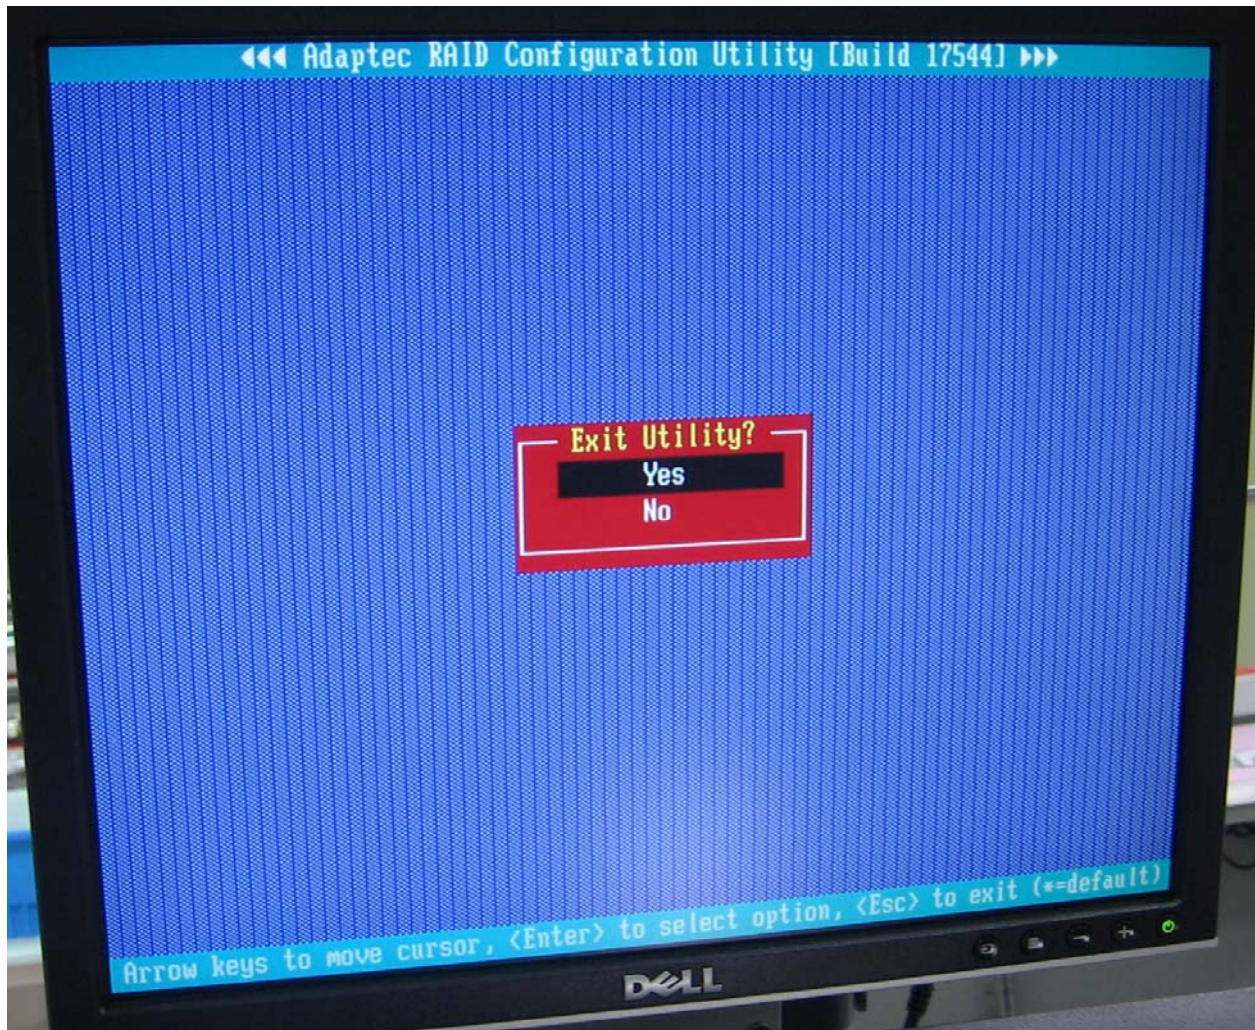

Figure 7-19 Exit Utility
22. Press **Escape**. The Exit utility window will appear. Select **YES** and press **Enter**. (Figure 7-19).